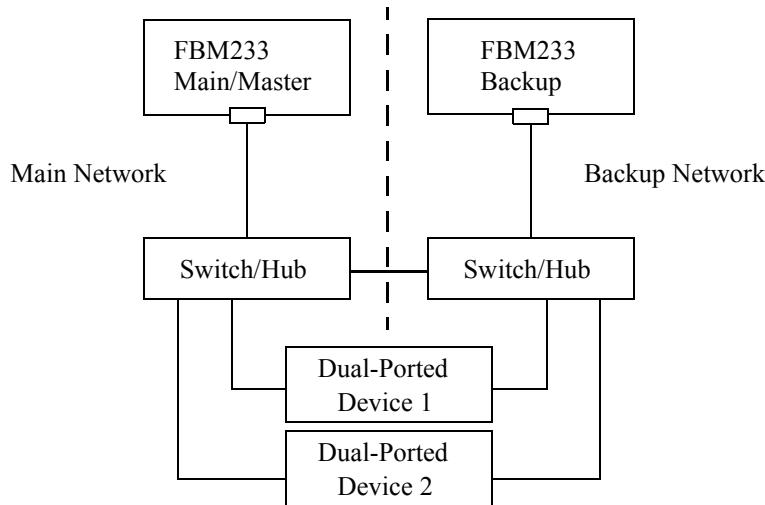

Figure 6-4. Redundant FDSI 233s Configuration with External Interlink
This configuration is recommended in cases where the device gets overloaded when scans are performed from both master and tracker. Figure 6-4 shows the architecture of this configuration.
4. Click **Next** to continue. A dialog box similar to Figure 6-4 appears on your screen.